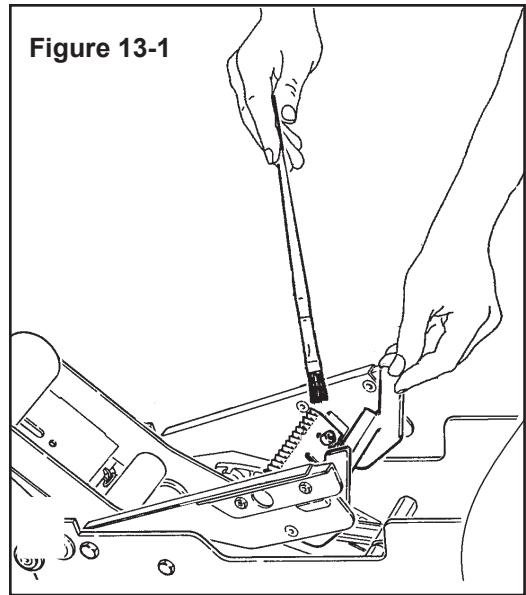

Figure 13-1
- Should tape adhesive buildup occur, carefully wipe clean with oily cloth or brush. Oil prevents the buildup of tape adhesive (**Figure 13-1**).